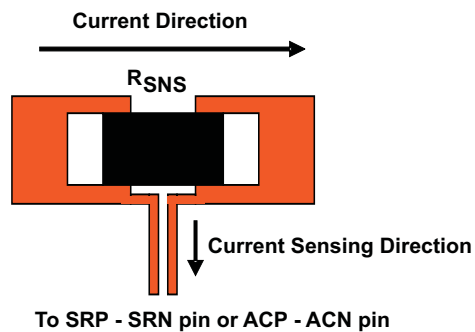

Figure 24. Sensing Resistor PCB Layout
4. The charging-current sensing resistor should be placed right next to the inductor output. Route the sense leads connected across the sensing resistor back to the IC in same layer, close to each other (minimize loop area) and do not route the sense leads through a high-current path (see Figure 24 for Kelvin connection for best current accuracy). Place the decoupling capacitor on these traces next to the IC.